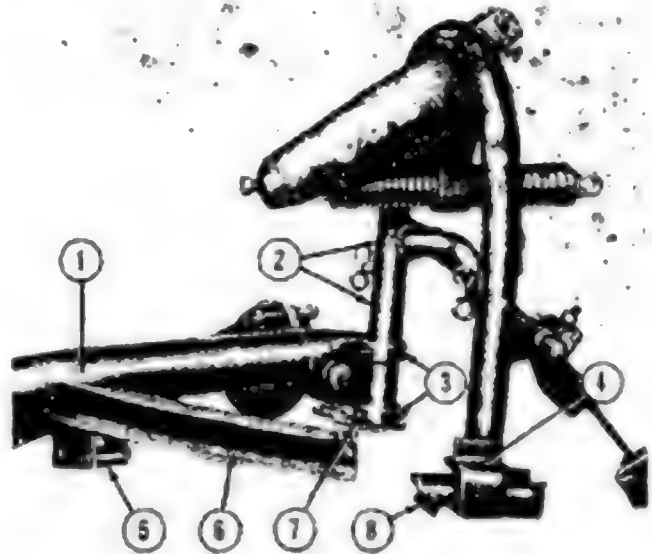
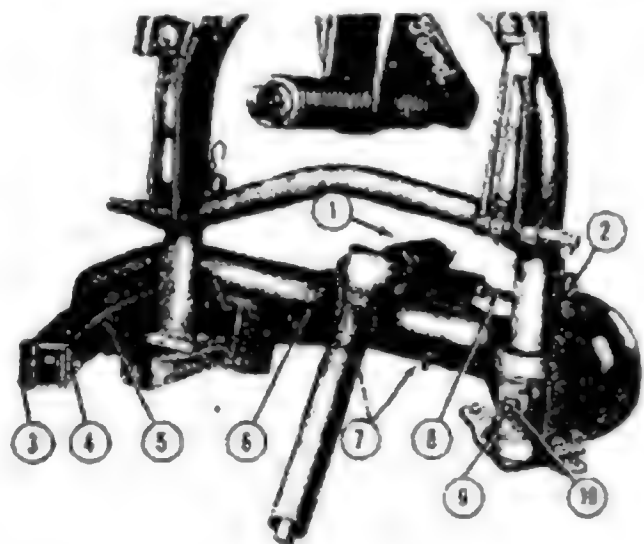

Figure 16
Figure 17
3. Position the lower frame (1), Figure 16, as shown; and, insert the left side of the upper frame (2) through the yoke (3).
4. Thread the bellcrank (7) as far as possible into the left leg of the upper frame (2), so it is free to pivot in the approximate position shown.
5. Attach the breakout wedge (9), Figure 17, to the left leg of the upper frame with the special cap screw as shown. Do not tighten the cap screw at this time.
6. Latch the mower breakout and position the wedge (9) as far to the right as possible, toward the P.T.O. drive in Figure 17. Tighten the cap screw.
7. Engage the lower edge of the breakout guide (6), Figure 16, under the welded plate (4) on the upper frame and position the frames as shown in Figure 17.
NOTE: Do not attempt to secure the breakout latch (8) on the roller (5), Figure 16, until the cutter bar is attached.
8. Attach the breakout guide stop (3), Figure 17, to the end of the breakout guide (5), as shown; and
- a. Loosen the belt adjusting bolt jam nut (2), Figure 17, and turn the adjusting bolt (8) in sufficiently to permit easy installation of the drive shaft housing (1).
- b. Position the drive shaft housing (1), Figure 17, on the lower frame (6) as shown. Place a
NOTE: At this point, the cutter bar safety breakout latch (8), Figure 16, should be engaged on the roller (5). To do this, check the roller to be sure it turns freely, start the tractor engine, and lower the cutter bar into operation position. Then, back the tractor up until the breakout assembly is engaged and turn off the tractor engine. If the breakout spring is too tight, consult the breakout spring adjustment on page 12. When the breakout is latched, the retaining wedge must be repositioned. Loosen the cap screw (10), Figure 17, and slide the retaining wedge (9) as far to the right as possible (toward the P.T.O. drive in Figure 17). Tighten cap screw to secure wedge.